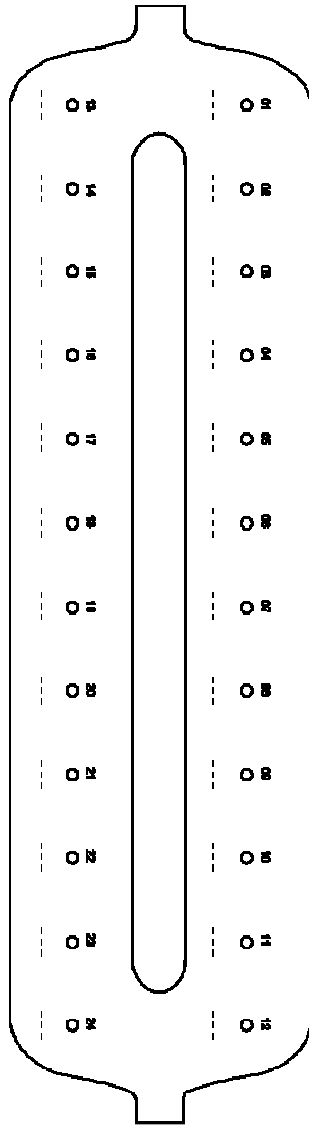

Figure 2. Labeling scheme for Lysis Tubes (LT), Elution Tubes (ET) and QIAamp MinElute Columns for use on the QIAvac 24 Plus vacuum system.
We recommend labeling the Lysis Tubes (LT), Elution Tubes (ET) and the QIAamp MinElute Columns for use on the QIAvac 24 Plus vacuum system according to the scheme in Figure 2 to avoid the mix-up of samples. This figure can be photocopied and labeled with the names of the samples.